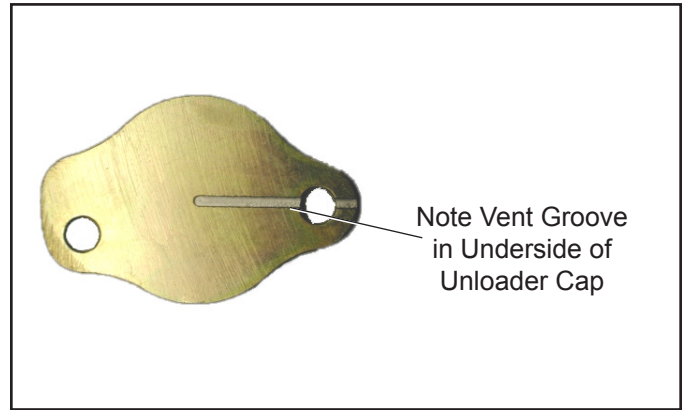

Figure 4 – Underside of Unloader Cap
2. Position the new unloader cap (2) on top of the balance piston making certain the upper, stamped surface with the logo is visible and that the vent groove is on the underside and oriented towards the edge of the cylinder head. Using manual pressure, gently push the balance piston into the unloader piston until the unloader cap rests against the cylinder head. (See Figure 4.)